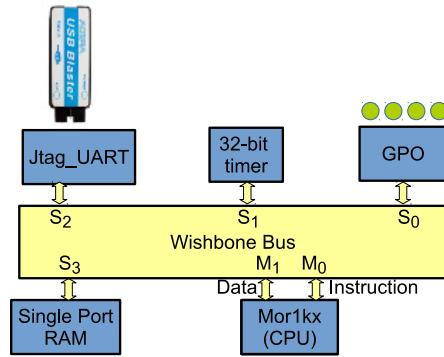

Figure 5.1: The schematic of desired SoC in this tutorial.
2. In parameter setting set M (master interfaces number) as 2 and S (slave interfaces number) as 4. These values are obtained from Figure 5.1. You can changed them later if you want to add/remove any IPs.